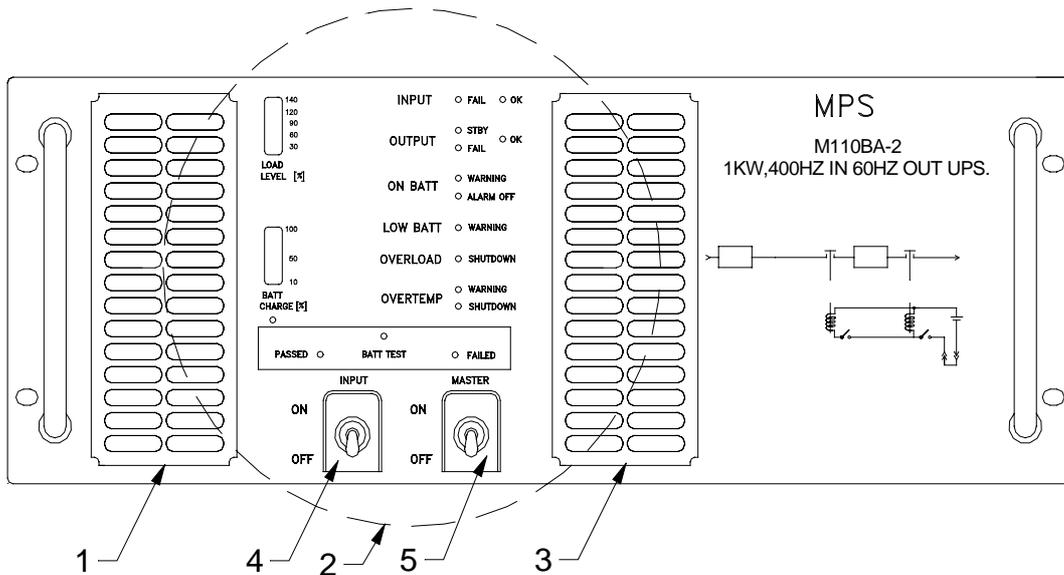

Figure 3 - Front Panel: Main Components
4.1 Front Panel: Main Components (See Figure 3)
6. Operation, Controls and Indicators (ref. Figures 3 and 4)